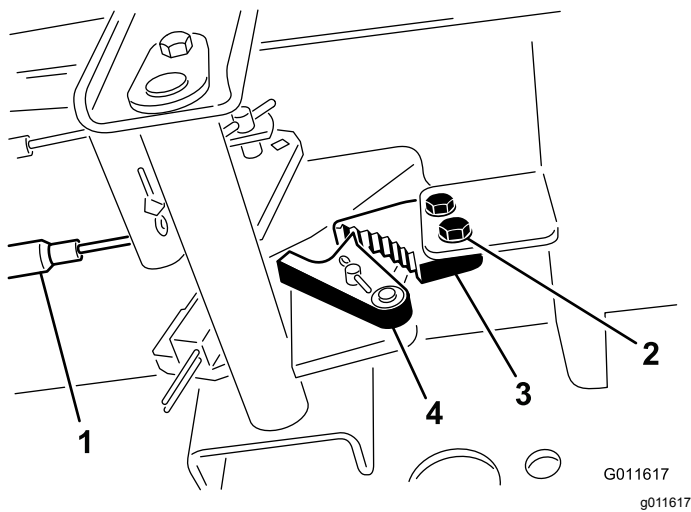

Figure 68
1. Loosen the 2 screws securing the parking brake pawl to the frame (Figure 68).
2. Press the parking brake pedal forward until the brake detent completely engages on the brake pawl (Figure 68).